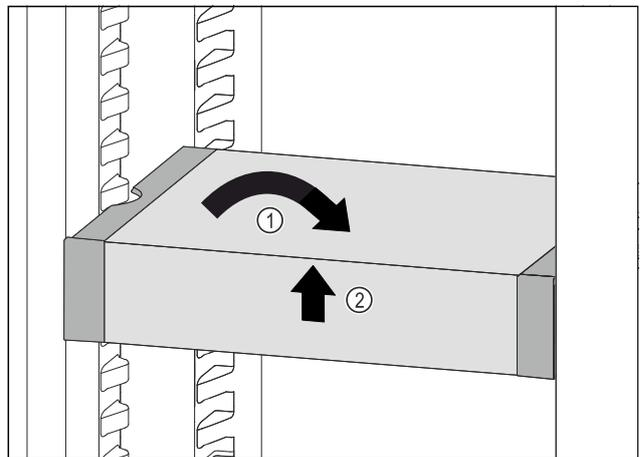

Fig. 97
- ▶ Set VarioSafe straight. Fig. 97 (1)
- ▶ Lift VarioSafe at the front. Fig. 97 (2)